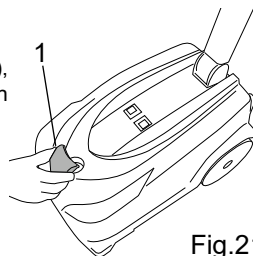

Fig.21
- Remove the cap of the detergent tank (fig.21, ref. 1).